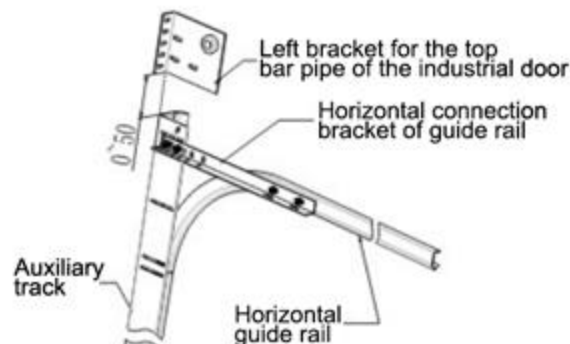

Figure 6-6
6.2.2.1 Fix the left and right sky bar brackets respectively at 0~50 above the vertical connecting brackets of the left and right guide rails of the door opening according to Figure 6-6, and the installation heights of the left and right brackets are the same. The height error is less than 2mm.